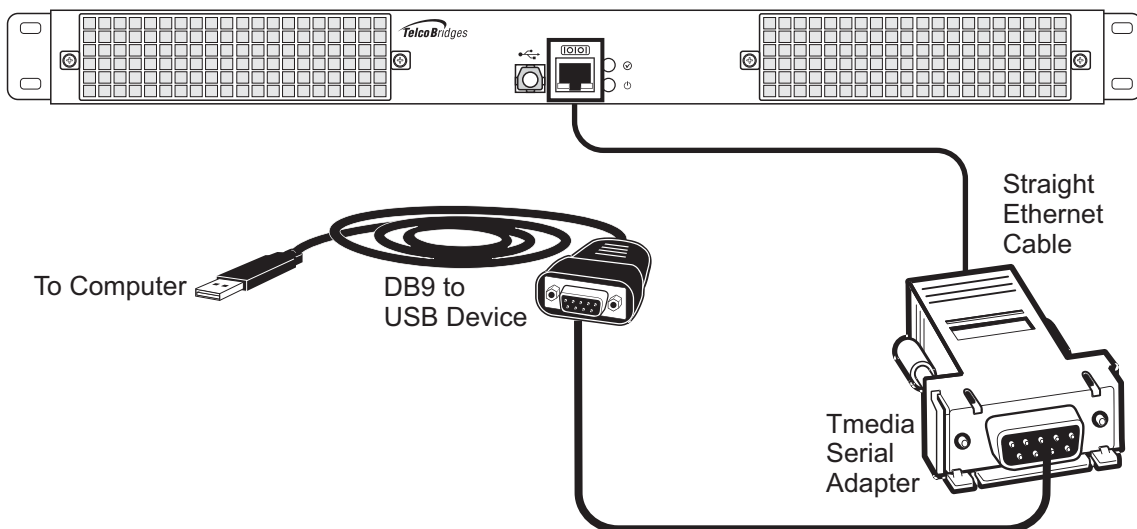

Figure 3.3 Conceptual View of a Serial Connection from the 800 Series Gateway to a Computer
2. If your computer’s serial port features a DB9 connector, use the Tmedia serial adapter supplied with your 800 series gateway. If your computer’s serial port features a USB connector, you will need to provide a USB to DB9 adapter. Refer to figure 3.3 on page 43.